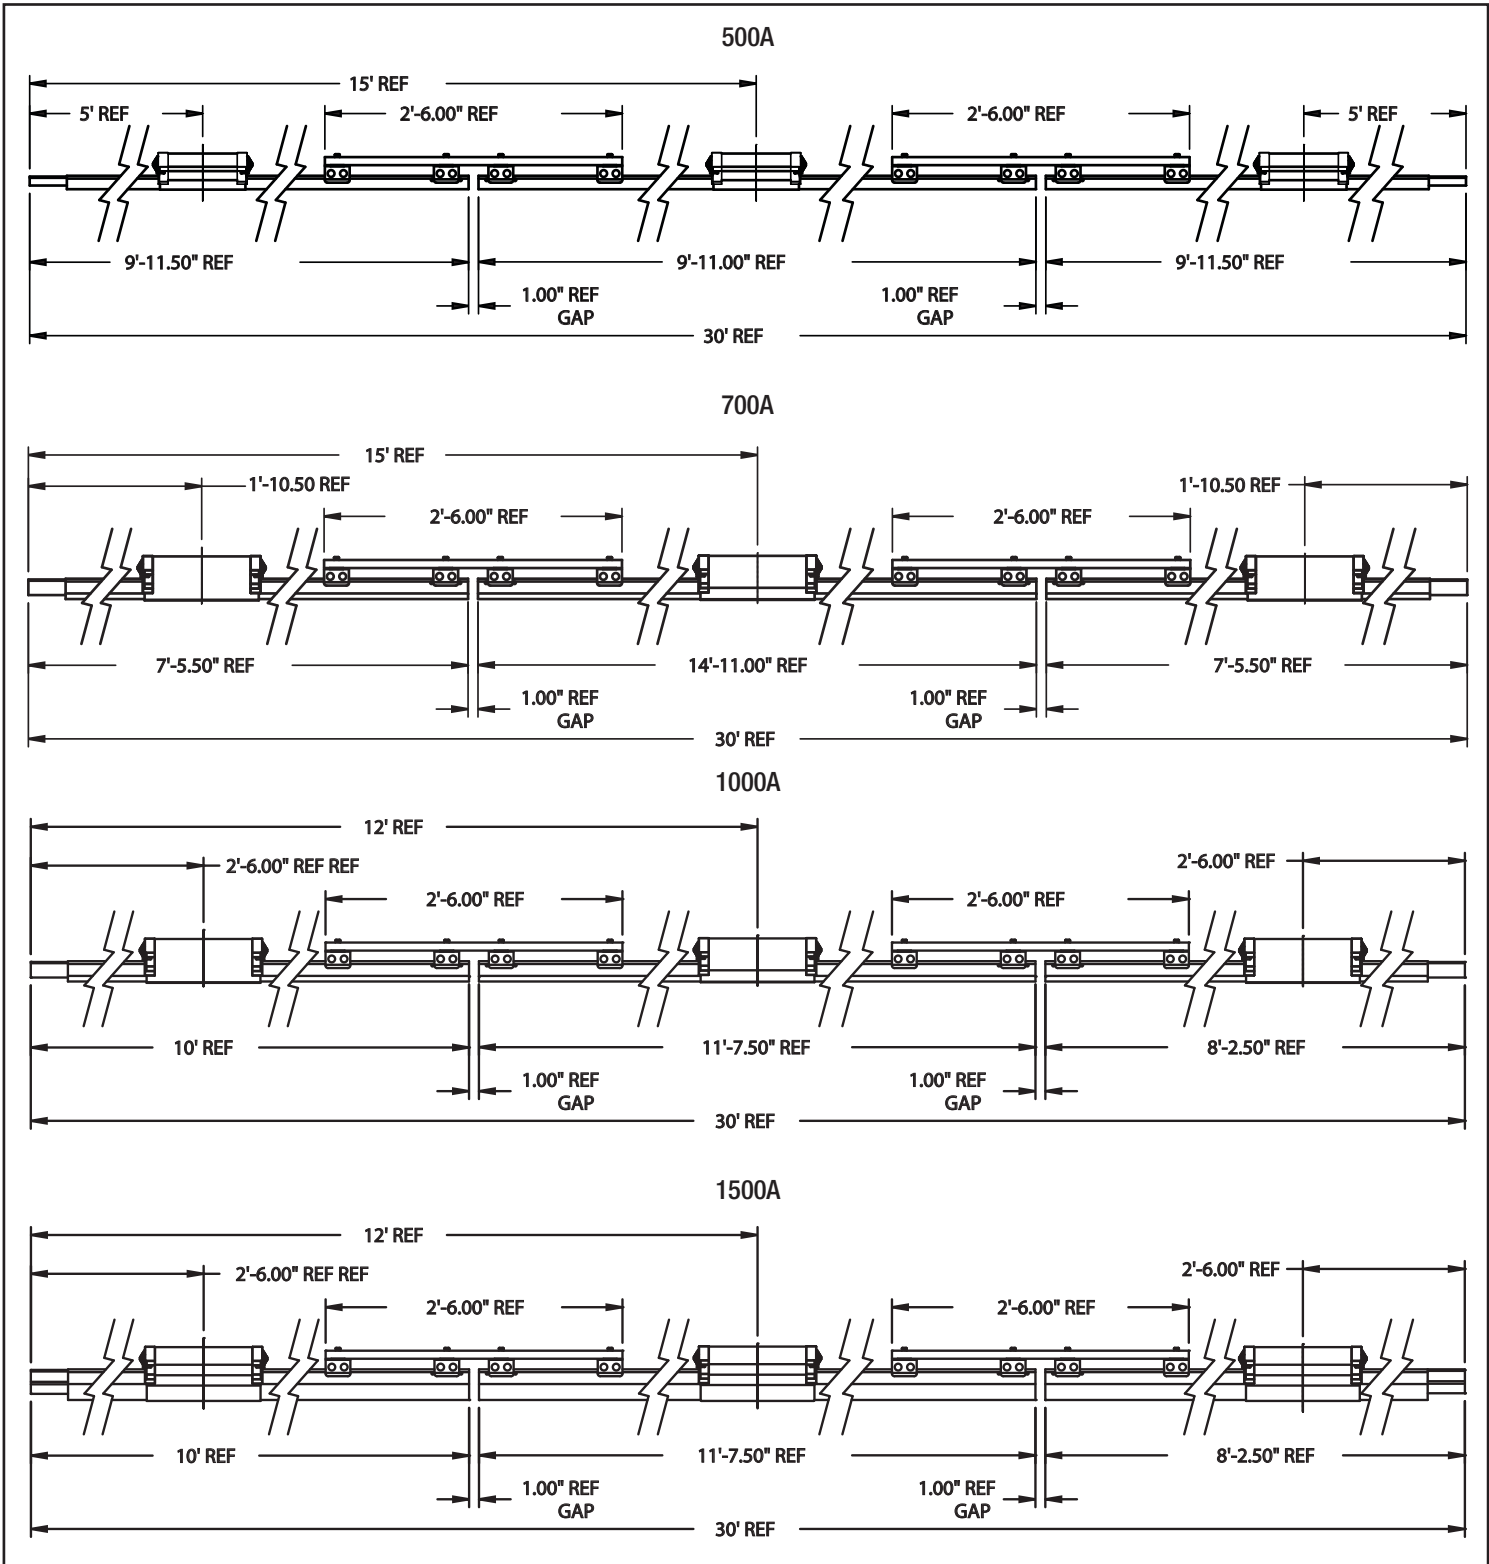

Figure 25-1 Power Interrupting Section Kits
- A detailed drawing of a power interrupt section is shown in **Figure 25-1**. The assembly displayed has a double 1.00" air gap setting for power interruption.